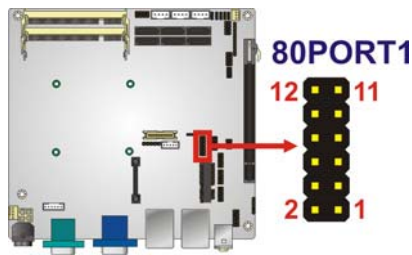

Figure 3-4: BIOS Debug Connector Location
- CN Location:** See Figure 3-4